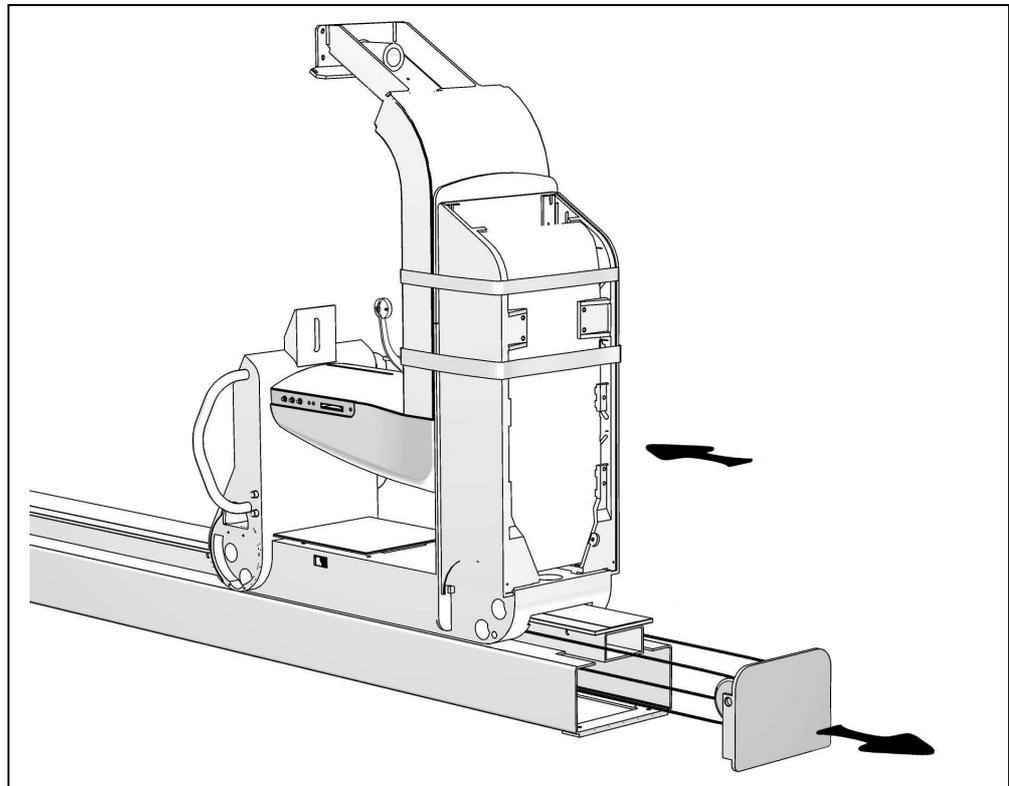

Figure 6-4
8. Assemble the pulley support with the respective ropes positioning the round corners in the front side of the column (Figure 6-4).